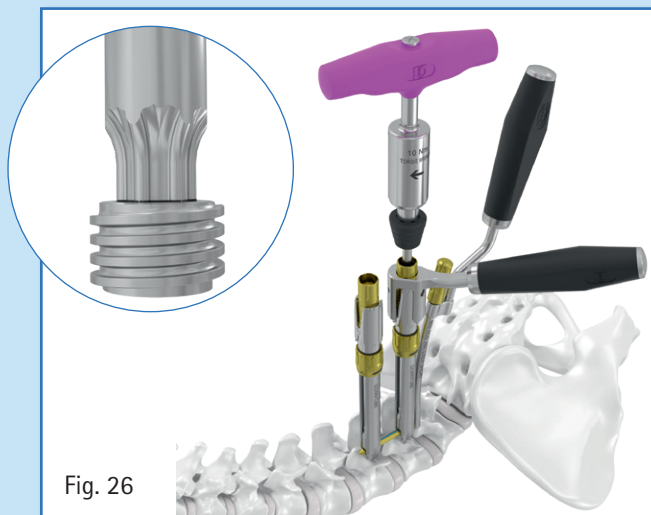

Fig. 26
3. Insert the Torque Wrench through the cannulation of the Rod Pusher, and fully seat the tip of the Torque Wrench into the socket of the Set Screw. (Fig. 26)